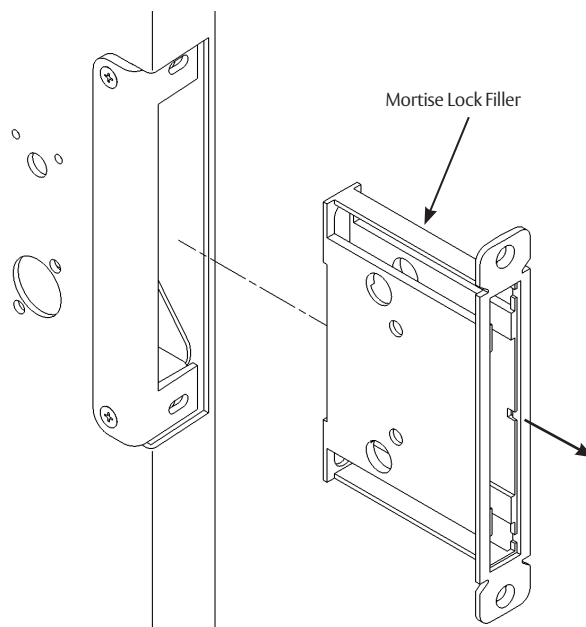

Figure 23
2. Remove mortise lock filler and discard. (Figure 23)